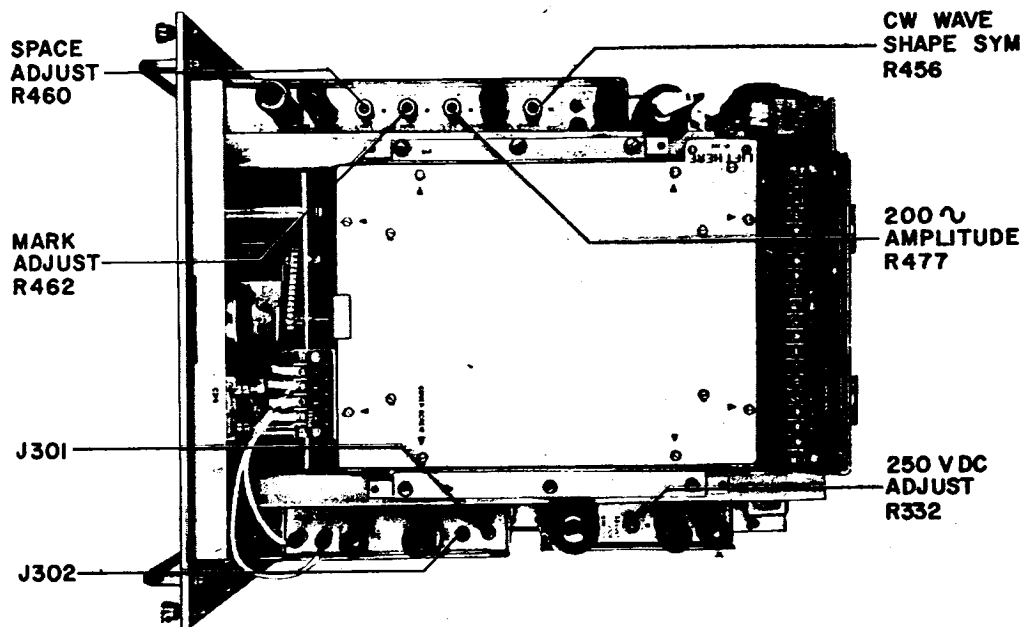

Figure 6-9. Radio Frequency Oscillator O-621/WRT-1, Top View, Electrical Adjustments
Step 2. Refer to figure 6-9 and connect Frequency Meter AN/TSM-9 to J301.
Step 3. Set TUNING (C) control to 03.
Step 4. Set TUNING (D) control to 000.
Step 6. Set TUNING (D) control to 999.
(4) **KEYER ADJUSTMENTS.**—The following six potentiometers must be adjusted in the keyer chassis: 200 ~ AMPLITUDE potentiometer R477; CW WAVE SHAPE SYM potentiometer R456; FSK WAVE SHAPING potentiometer R483; SPACE ADJUST potentiometer R460; MARK ADJUST potentiometer R462; and KEYING BIAS ADJUST potentiometer R489. In order to make these adjustments set the controls on the front panel of Radio Transmitting Set AN/WRT-1 as indicated in paragraph 6-2e(2) and proceed as follows:
Step 2. Set SHIFT (E) control R461 to 1000 cps (fully clockwise).
Step 5. Refer to figure 6-9 and adjust MARK Control R462 for a reading of +125 volts d-c on the multimeter.
Step 7. Refer to figure 6-9 and adjust SPACE ADJUST control R460 for a reading of +165 volts d-c on the multimeter and then remove the multimeter.
Step 14. Refer to figure 6-9 and adjust 200 ~ AMPLITUDE potentiometer R477 until the amplitude of the sine wave on Oscilloscope TS-239A/UP is a minimum of 3 volts.
Step 3. Refer to figure 6-9 and unlock the 250 VDC ADJUST potentiometer R332. Adjust R332 until Multimeter AN/PSM-4 indicates exactly 250 volts. Lock the potentiometer.
(1) TEST EQUIPMENT AND SPECIAL TOOLS.